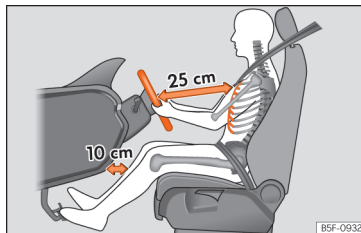

Fig. 17 The correct distance between the driver and the steering wheel must be at least 25 cm [10 inches].
- Adjust the steering wheel so that it is at a distance of at least 25 cm (10 inches) from the sternum »» Fig. 17 and can hold it with both hands on the sides, on the outside, with the arms slightly flexed.